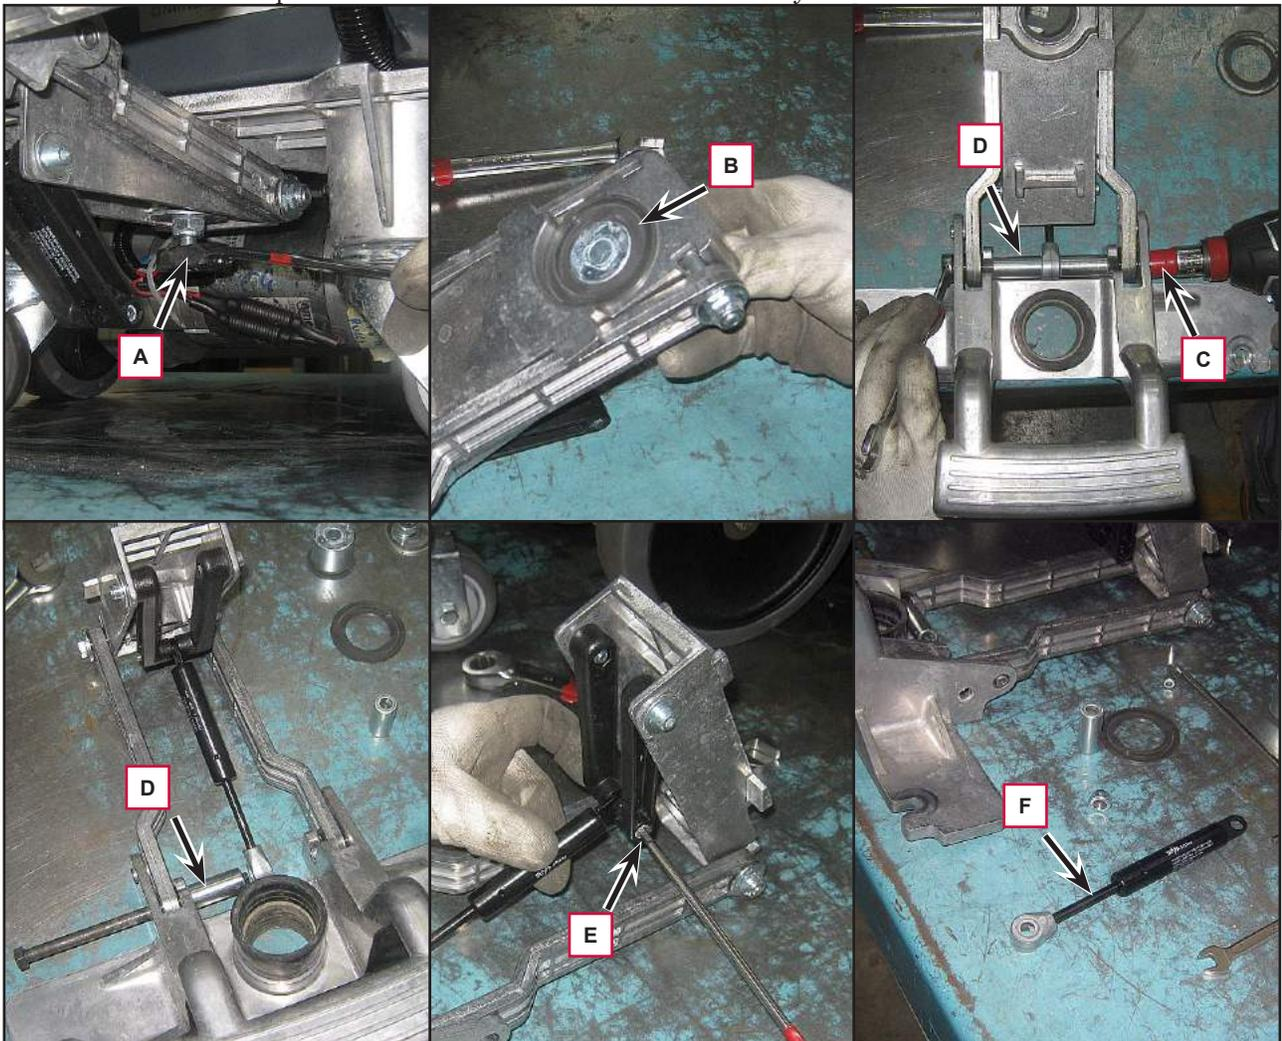

Figure 4
3. Unscrew the nut (A) (Figure 4), retaining the bushings, washers and spacers (B).
4. Unscrew the screw (C), retaining the nut, washers and spacers (D).
5. Unscrew the screw (E), retaining the nut and washers.
6. Remove and replace the gas spring (F).